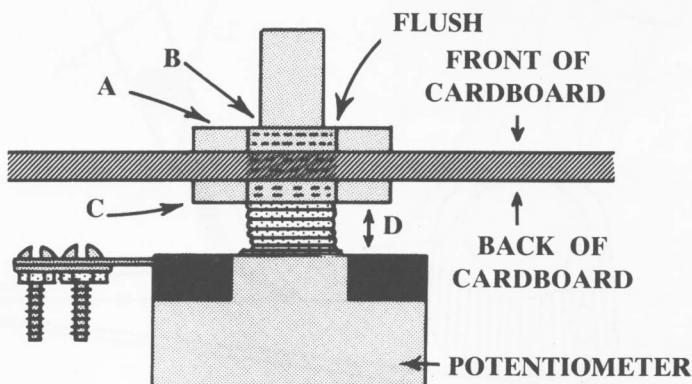

Fig. 10
There are 6 very large nuts in your kit. Two are used to attach each pot to the computer box. Twirl a large nut about half way onto the threaded part of each pot, as shown at C in Fig. 10.
check the position of the pot from the back and see that its three terminals point downward, as shown in Fig. 2. Also check to see that none of the threaded part sticks up beyond the nut at the front. Note in Fig. 10 that the end of the nut (A) is flush with the bushing (B). If it projects out, remove the pot and rotate nut C so as to increase distance D somewhat. Insert once again and tighten with a nut on the front so that the threaded part does not project beyond the nut.